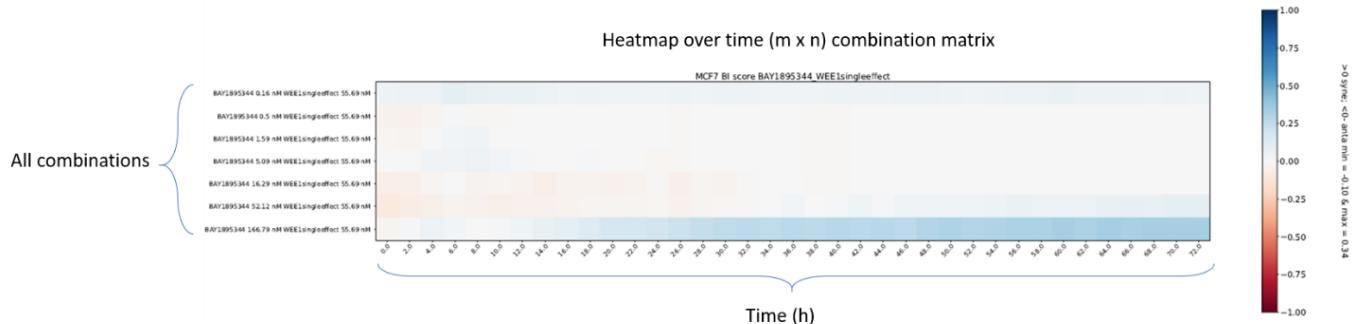

Figure 34: Heatmap over time for (m x n) matrix combination.
- ($m \times n$) matrix combination, see Figure 34.